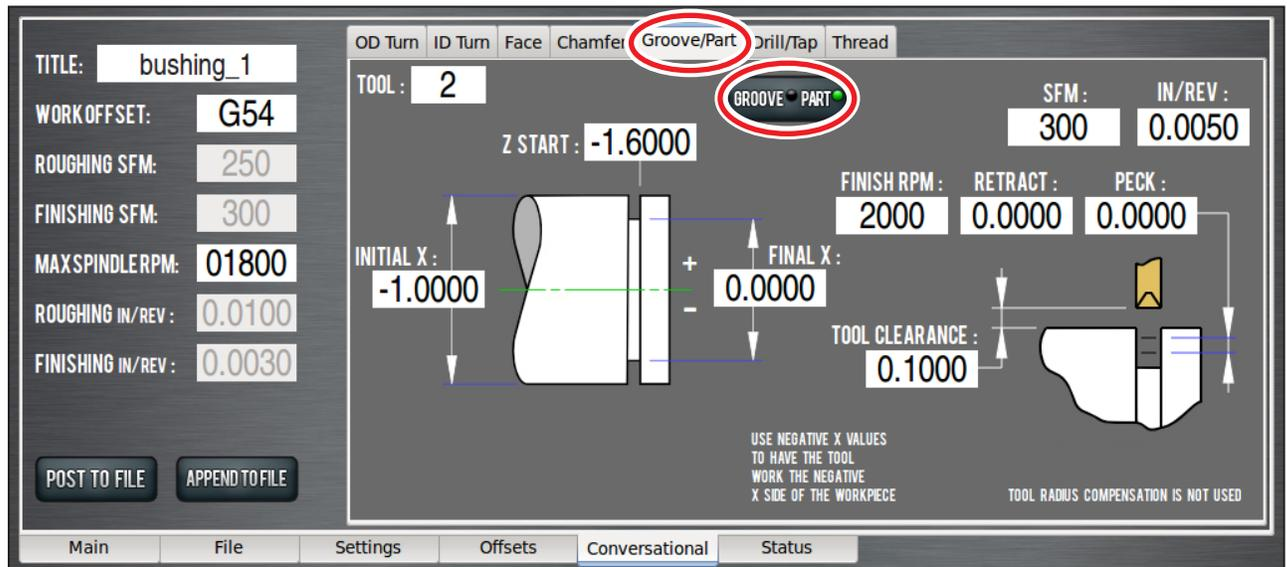

Figure 4.26
1. Click the *Groove/Part* tab, then toggle the *Groove/Part* button to illuminate the *Part* LED. On the parting screen, enter the following values as shown in **Figure 4.26**.